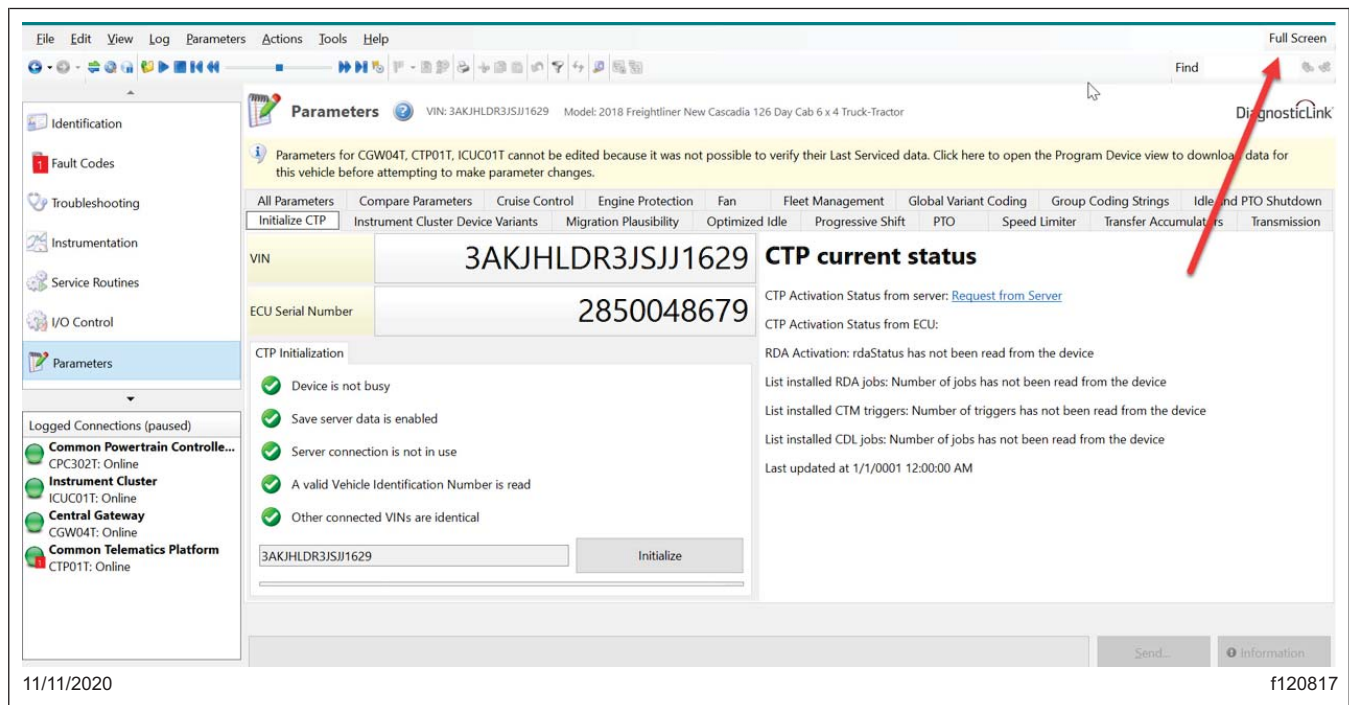

Fig. 3, CTP Activation Status
15. With the initialize CTP panel still open, click the full screen button located on the top right side of the DiagnosticLink window. See Fig. 3.